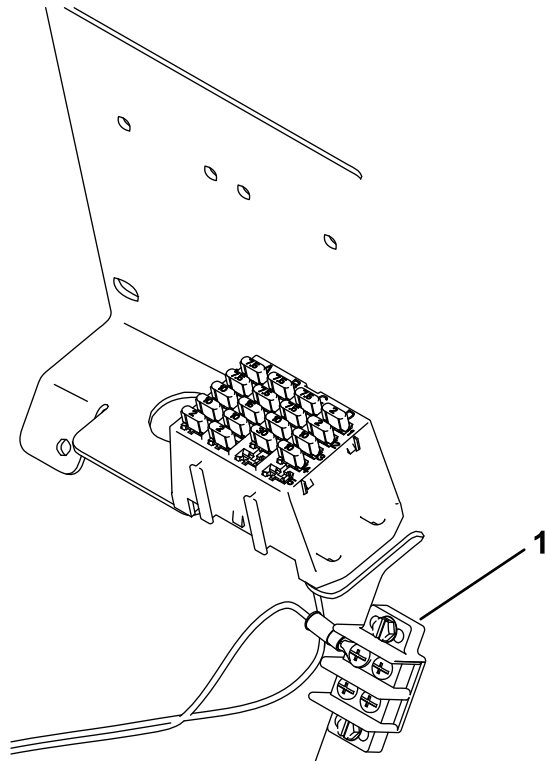

Figure 6
5. Secure the ring-terminal connector to an empty terminal on the ground block (Figure 6).